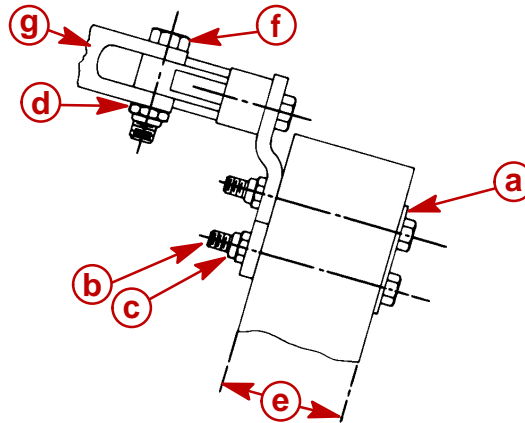

**Figure 1**
1. Lubricate both holes in pivot block (Figure 1) with Quicksilver 2-4-C with Teflon.
2. Place pivot block on pivot spacer and secure to transom bracket with 3/8 in. x 2-1/2 in. (9.5 mm x 63.5 mm) bolt, flat washer and locknut, as shown in Figure 1. Torque locknut to 20 lb. ft. (27 Nm).
- Place Ride-Guide yoke on pivot block and secure with 7/16 in. x 1-3/4 in. (11.1 mm x 44.5 mm) bolt and locknut, as shown in Figures 1 and 2. Torque locknut to 10 lb. ft. (13.5 Nm), **then back off 1/4-turn.**
- Determine centerline of outboard, then measure 15 in. (38.1 cm) over from this centerline and draw a vertical line on transom. (Figure 1)
- b. Position attaching kit on transom so that **transom bracket is centered on the 15 in. (38.1 mm)** (Figure 1) at a height where the **center of Ride-Guide yoke is even with, or not more than 1/2 in. (12.7 mm)** above top edge of transom. (Figure 3)
4. Check steering system fasteners (at intervals specified, preceding) to be sure that they are torqued to correct specifications. (Figures 1, 2 and 3)